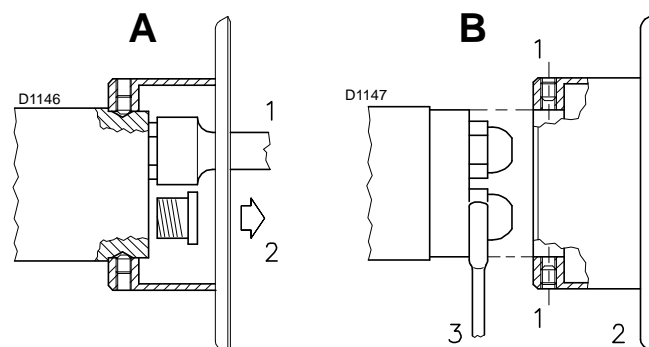

Fig. 15
- Assemble the two nozzles with the socket spanner 1)(A Fig. 15) (16mm), after removing the plastic plugs 2)(A Fig. 15), passing from the central opening of the flame stability disc. Alternatively, loosen the screws 1)(B Fig. 15), remove the disc 2)(B Fig. 15), and replace the nozzles using the spanner 3)(B Fig. 15).